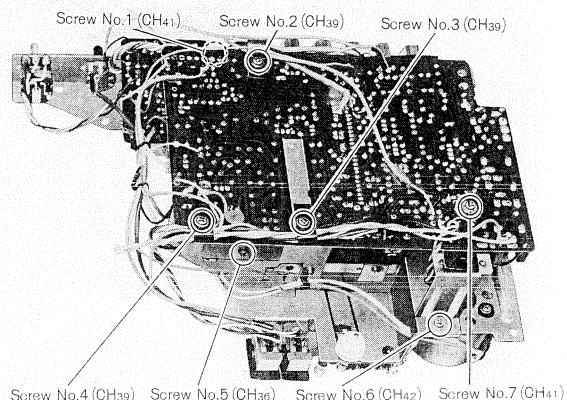

Fig. 3
2. Remove the seven (7) screws for the OSC switch and PC board (AF circuit) (nos. 1~7), as shown in fig. 3.